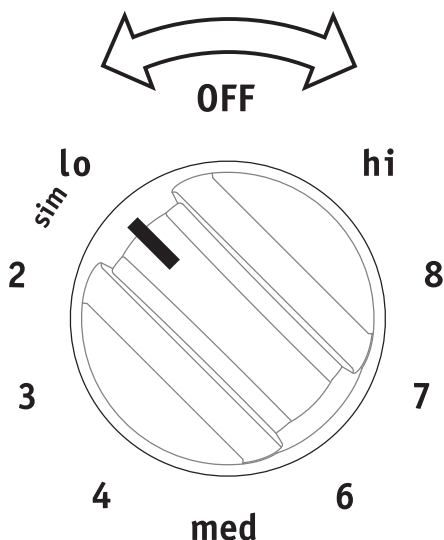

Figure 5: Control knob shown is typical only
2. Push in and turn the surface control knob in either direction to the desired setting (See Figure 5). Start most cooking operations on a higher setting and then turn to a lower setting to finish cooking. Each surface element provides a constant amount of heat at each setting. A glowing red surface heating area extending beyond the bottom edge of the cookware indicates the cookware is too small for the surface heating area.